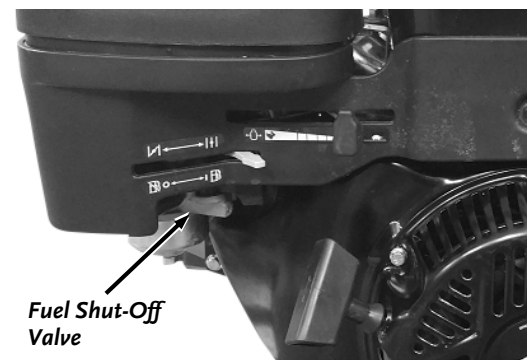

Figure 24
3. Ensure that the Fuel Shut-Off Valve is in the “ON” position (**Figure 24**).